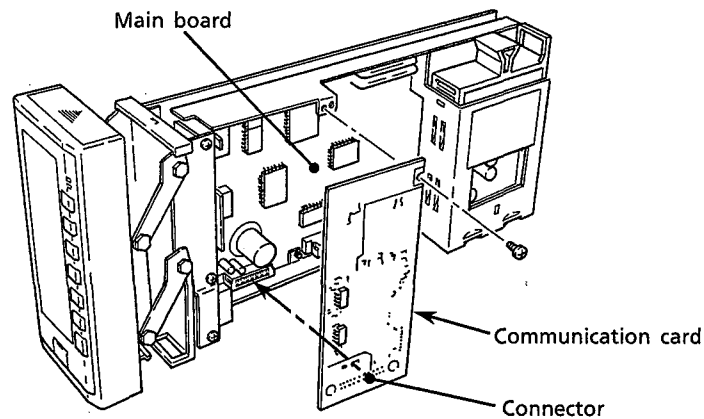

Figure 11.8 Replacing the Communication Card
- ① Swing up the front panel, and remove the internal unit.
- ② Loosen the fixing screw with a screwdriver.
- ③ While pushing the communication card slightly to the left, pull the right side of the communication card to the front so that it comes to the front of the fixing screw.
- ④ Hold the left and right parts of the connector part, and pull out the card to the front (see Figure 11.8).
- ⑤ When the card is for YS-net communication, it is still connected to the main board through a flat cable (omitted in the figure below). So disconnect the connector at the main board side.